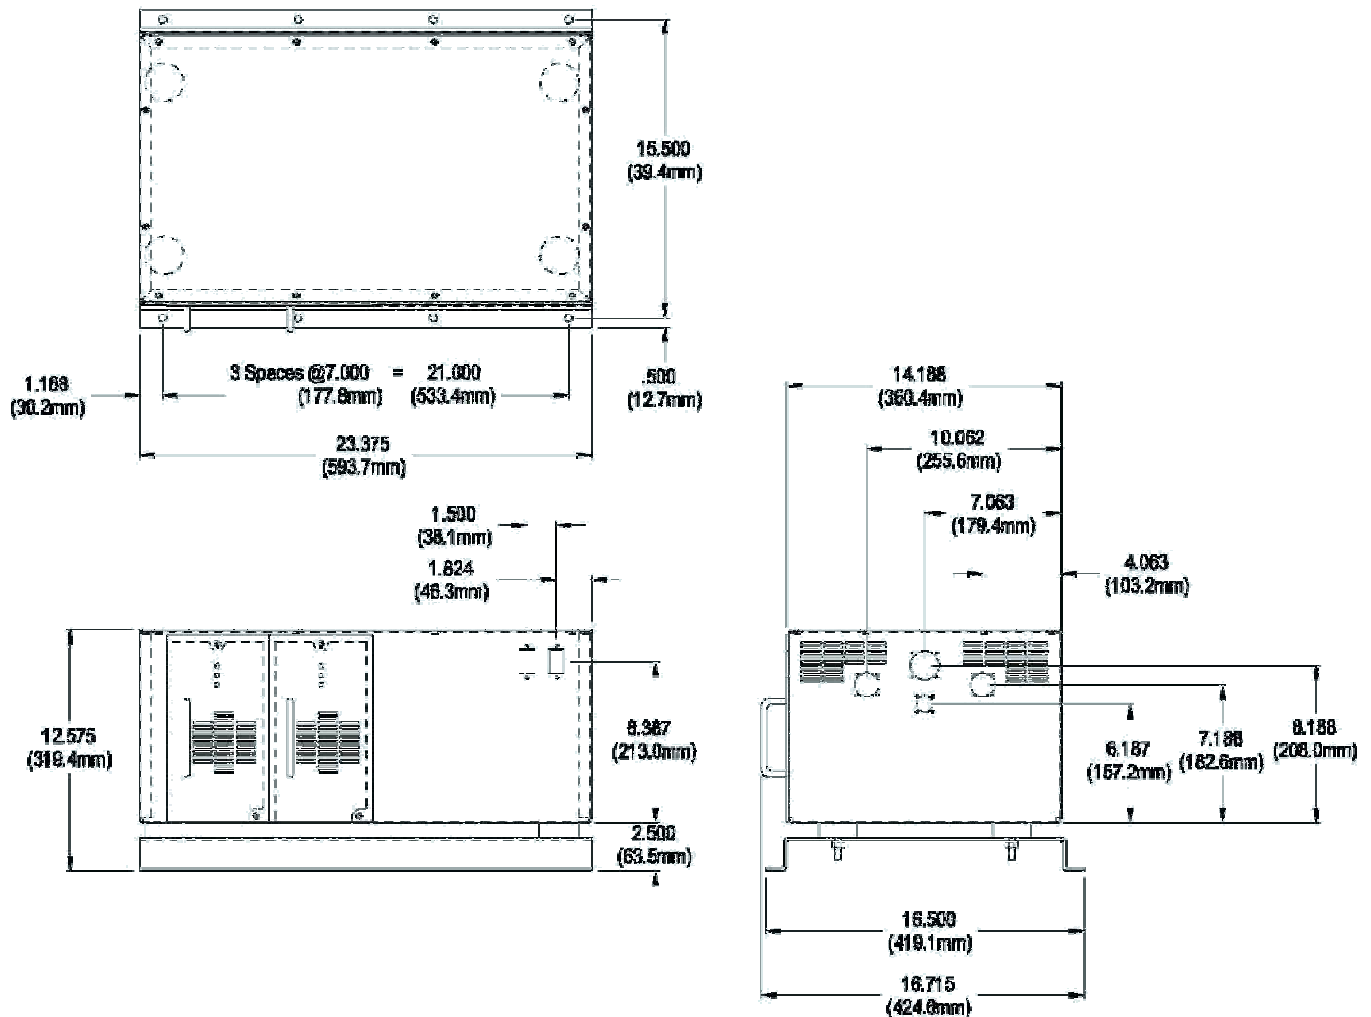

Figure 2: XINV-4000-NRE Dimensions
The XINV-4000-NRE enclosure w/mounting bracket dimensions are 12.575" (31.9 cm) H x 23.375" (59.5 cm) W x 16.715" (42.5 cm) D and weighs 153 lbs. (69.4 kg) – see Fig. 2.
3.32 Mount the unit to the bracket by means of eight (8) fasteners that mirror the hole-patterns as shown in the top view of Figure 2.